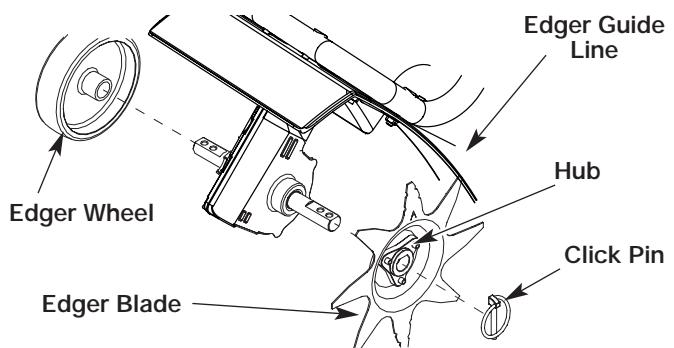

Fig. 6
1. Push the On/Off switch to Off (O) position to stop engine and tines and disconnect spark plug to avoid accidental starting.
3. Slide the edger wheel, with the hub facing inward, onto the right side of the tine shaft and secure with the click pin in the inside hole (Fig. 6).
4. Slide the edger blade with the hub facing out onto the left side of tine shaft and secure with the click pin in the inside hole (Fig. 6).